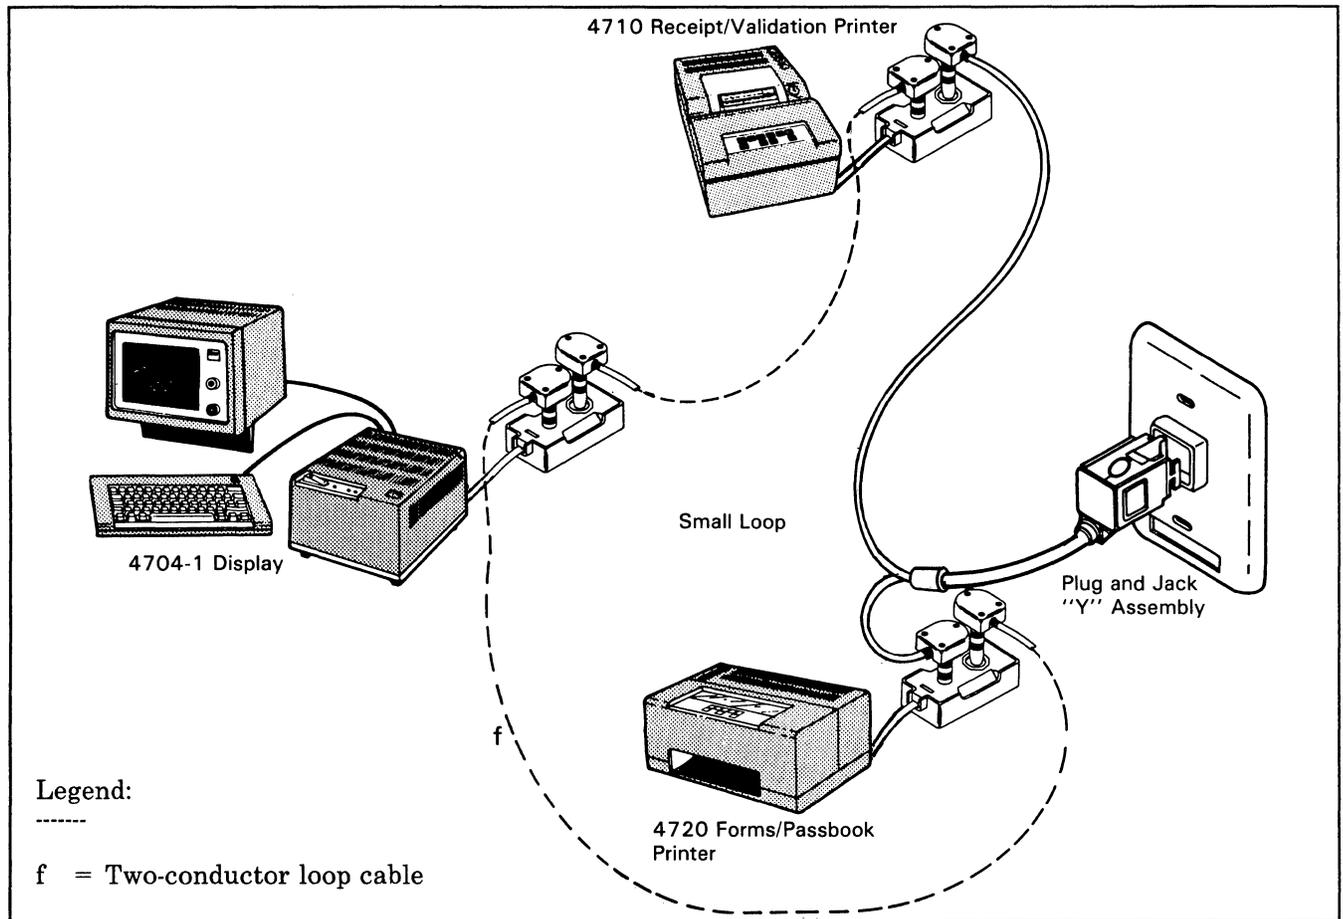

Figure 2-3. Example of Attaching a Small Loop to a Cabling System Receptacle
2. Use the loop cable to connect your devices as shown in Figure 2-3.
Detailed information for building loops is in your 4700 or 3600 installation planning manual. Figure 2-3 shows only one method of building a small loop.